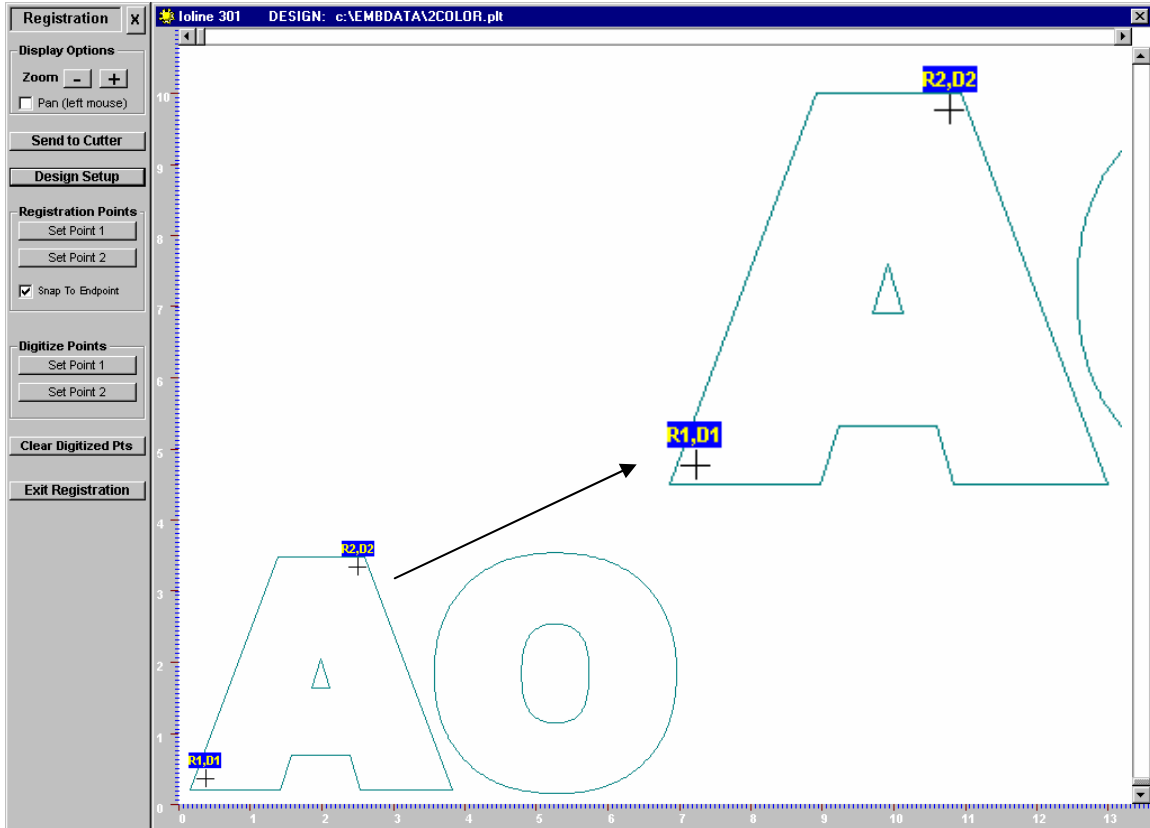

Figure 5: 301 display before file sent to cutter. Cut layer is turned on.
- Select **Design Setup**. Under the heading **Color Setup**, check the color box(es) for only the layers you want to cut. All colors with checked boxes selected will be cut. For the 2color.plt file, check only color 1 (the contour color); uncheck color 0. See Figure 5.